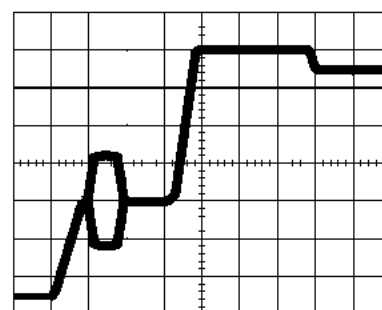

figure 3
- Select SEARCH Mode, and adjust the DELAY control to bring the beginning of the highlighted region onto the rising edge of the line synchronisation pulse (Figure 3).